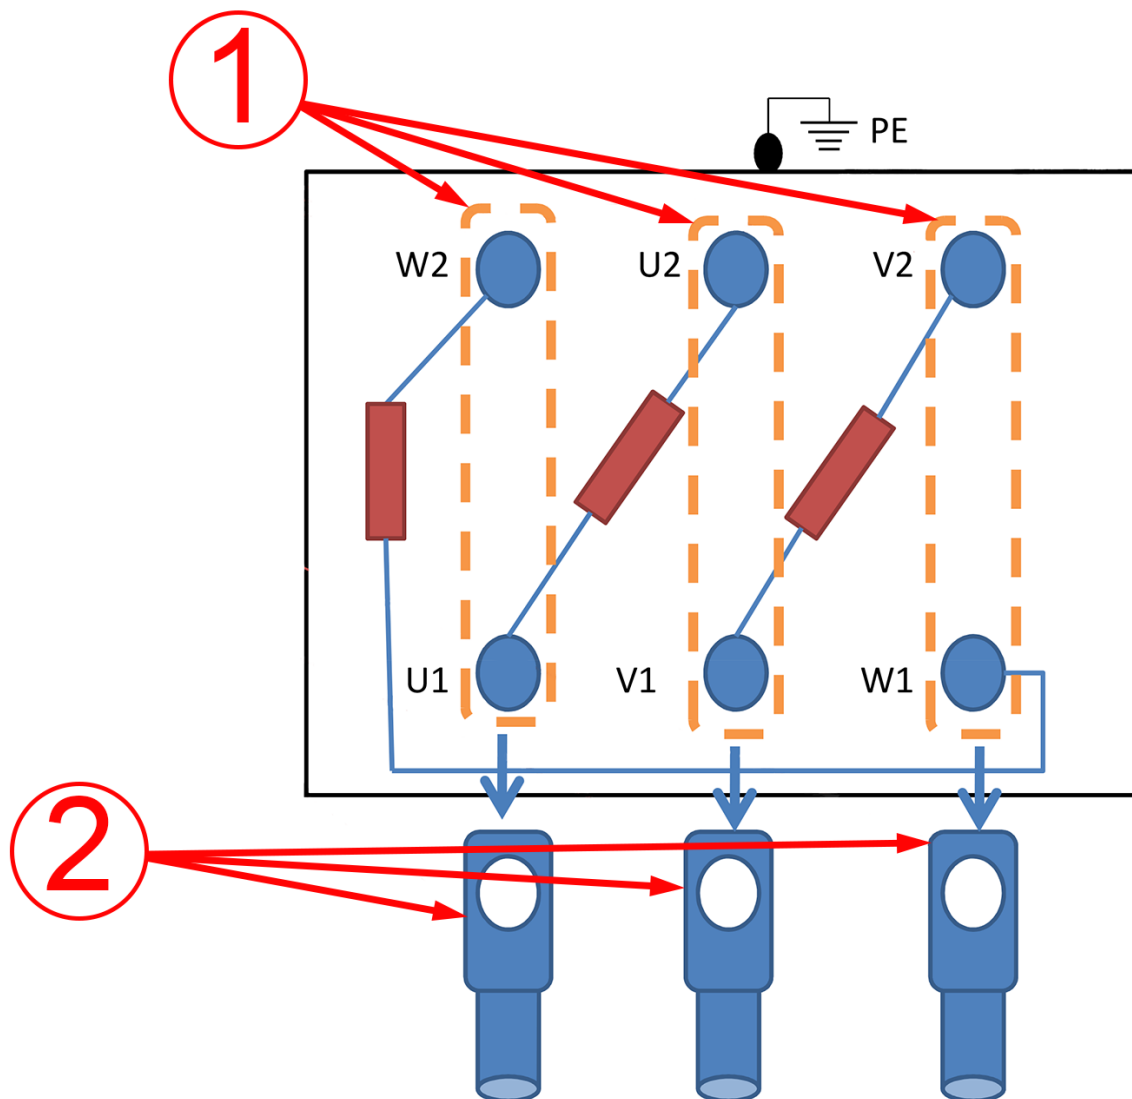

Figure 1: Remove connections
1. Remove all connectors for the Delta mode (see detail 1 in figure 1).
2. Screw off all cables that are connected to U1, V1, W1, U2, V2 and W2 (see detail 2 in figure 1.)